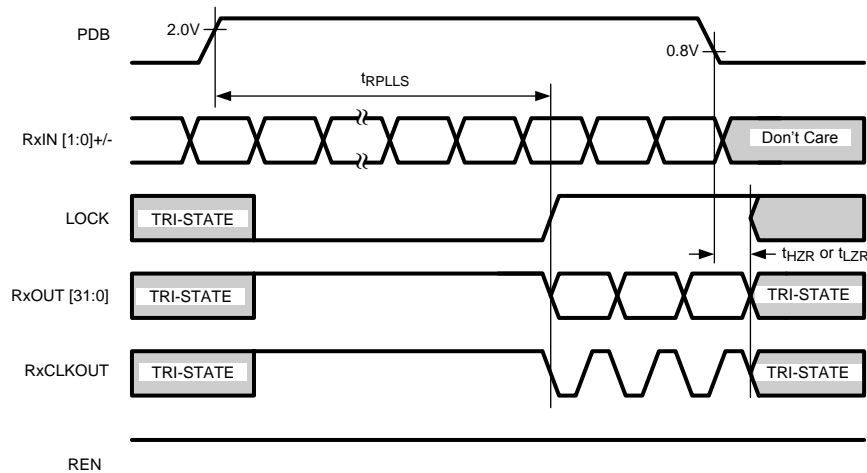

Figure 11. Deserializer PLL Lock Time and PDB TRI-STATE Delay
| $t_{HZR}$    | Data Output High to TRI-STATE Delay      | Figure 11  |     | 5                            | 10                     | ns    |
| $t_{RP LLS}$ | Deserializer PLL Lock Time               | 20 MHz – 50 MHzFigure 11See (1) |     |                              | $128k \times t_{ROCP}$ | ns    |
The DES enters Powerdown mode when DES PDB is driven low. In Powerdown mode, the PLL's stop and the outputs enter TRI-STATE. To bring the DES block out of the Powerdown state, the system drives DES PDB high. Both the SER and DES must relock before data can be transferred from Host and received by the Target. The DES will startup and assert LOCK high when it is locked to the embedded clocks. See also Figure 11.
When you drive the REN or DES PDB pin low, the DES output pins (RxOUT[31:0]) and RxCLKOUT will enter TRI-STATE. The LOCK output remains active, reflecting the state of the PLL. The DES input pins are high impedance during receiver Powerdown (DES PDB low) and power-off ( $V_{DD} = 0\text{V}$ ). See also Figure 11.